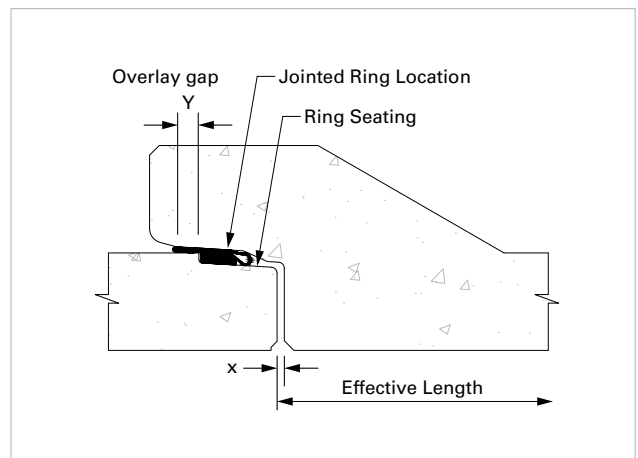

FIG. 8 Section through Pinnacle® sliding ring joint. Non-flexure condition.
\* Refer to figure 8
- \* Refer to figure 8
The recommended angular rotation of a pipe is the amount of joint deflection which is accommodated whilst maintaining concrete to concrete overlap "Y" (refer to Figure 8).